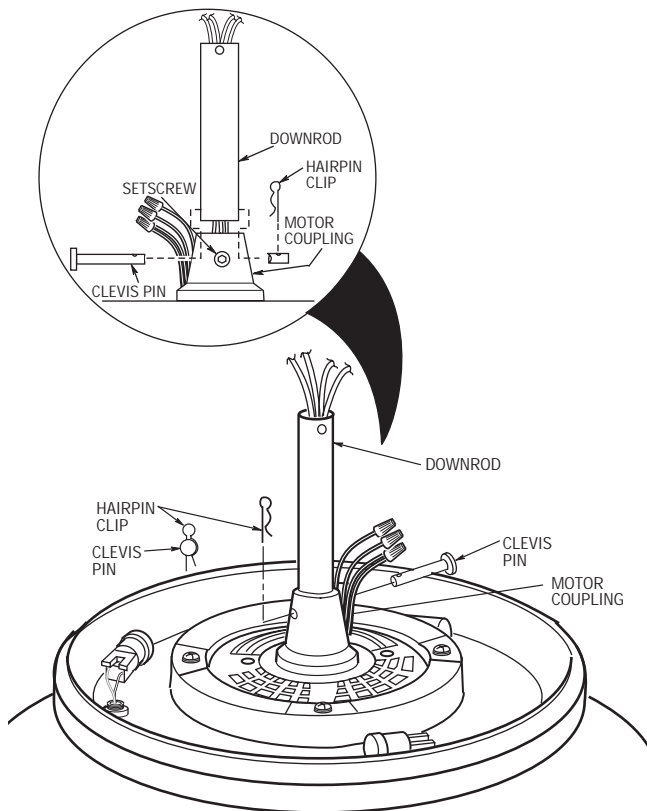

Figure 18
- 7. Route the white, blue, and black motor leads through the downrod. Fold the yellow, red, and brown wires into the slot in the motor coupling, slide the downrod down the wires and seat the downrod in the motor coupling (Figure 18).
- 8. Align the clevis pin holes in the downrod with the holes in the motor coupling. Install the clevis pin and secure with the hairpin clip (Figure 18). The clevis pin must go through the holes in the motor coupling and the holes in the downrod. Push the straight leg of the hairpin clip through the hole near the end of the clevis pin until the curved portion of the hairpin clip snaps around the clevis pin. The hairpin clip must be properly installed to prevent the clevis pin from working loose. Pull on the hanger ball to make sure the clevis pin is properly installed.
- 6. Using the wire connector supplied, connect the upright yellow lead assembly to the yellow lead from the fan motor and housing assembly (Figure 18).